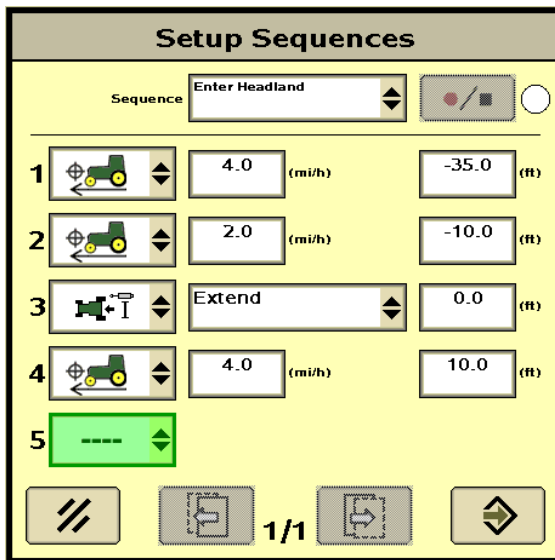
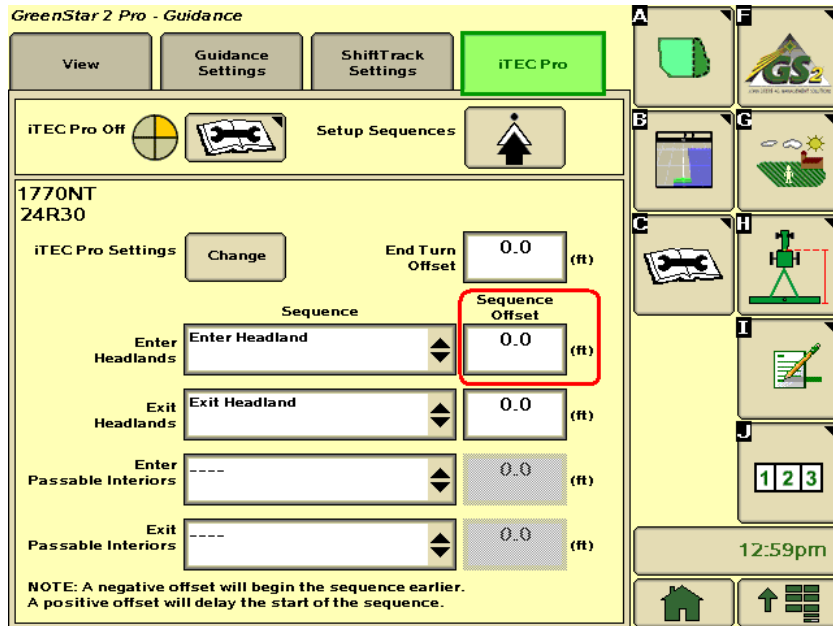

Figure 15
Figure 17
- Multiple speed and/or gear changes can be configured in each sequence as shown in Figures 15 & 16.
- Example: You notice that the planter should come out of the ground 5 feet earlier when entering the headland and you are using the settings in Figures 15 & 17. Change the SCVI function offset (Figure 15) to -5 ft. or change the Enter Headland Sequence Offset (Figure 17) to -5 ft.